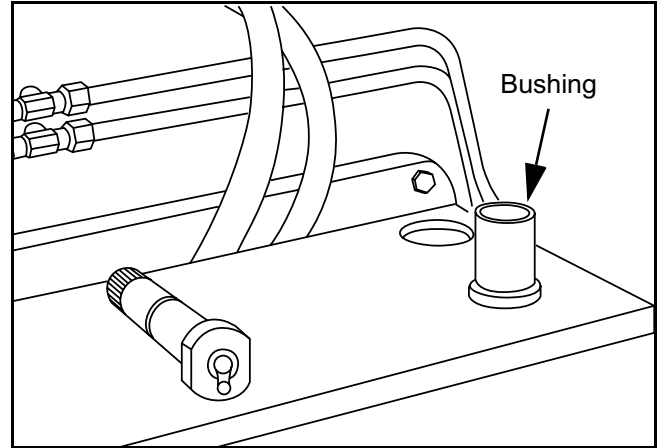

Figure 6 - 18 Remove bushing from tool
- 3) Pump grease into the bushing removal tool fitting. As grease is pumped in, the bushing will be pushed out of frame. Continue to pump grease until grease leaks out around the bottom of the bushing. (Figure 6 - 16)